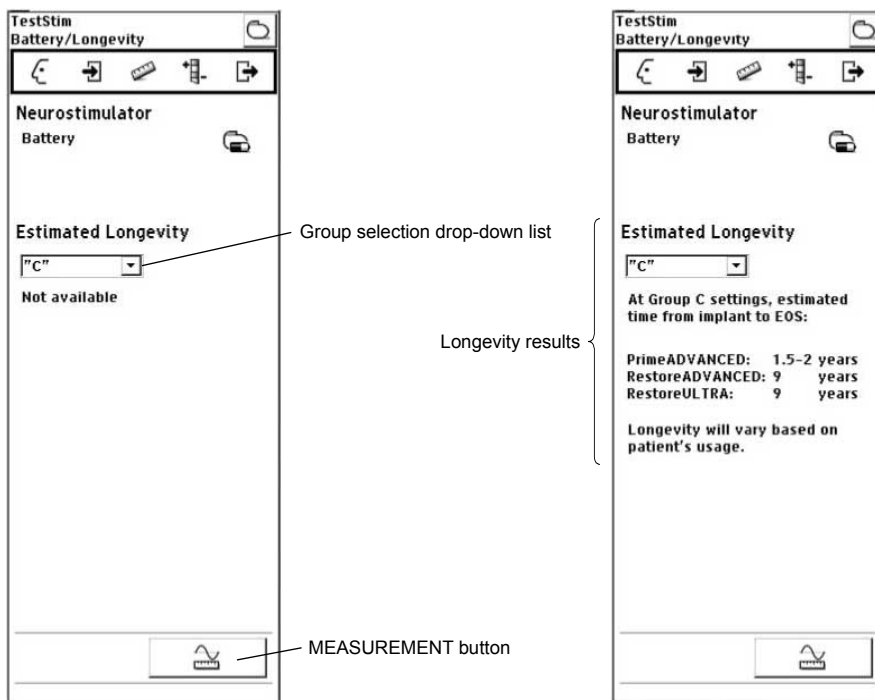

Figure 24. BATTERY/LONGEVITY screens.
2. Select a group from the group selection drop-down list (Figure 24).
3. Select the MEASUREMENT button (Figure 24).